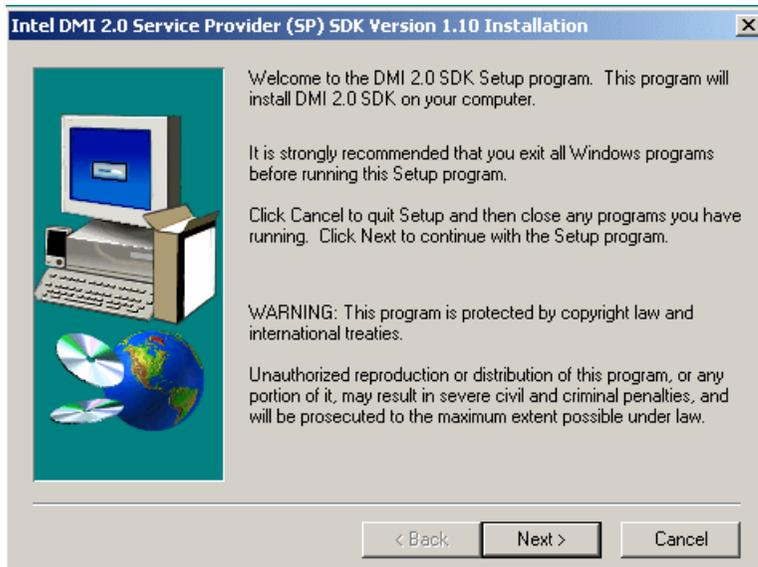

Figure 3-9 Installing FASTT Check
2. During the install you will be asked if you wish to install Intel DMI 2.0 Service Provider SDK 1.10. as shown in Figure 3-9: